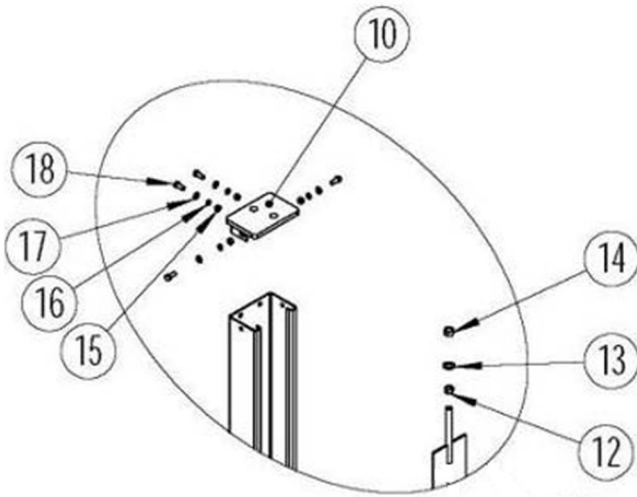

Fig. 5b
13. Secure Top Cap and Lock Ladder assemblies together with Washer (#13) and Nut (#14) as shown in Fig 5b. **Note: Ensure Jam Nut (#12) positioned below Top Caps.** Position the Crossbeams at the second lowest locking position on all columns.